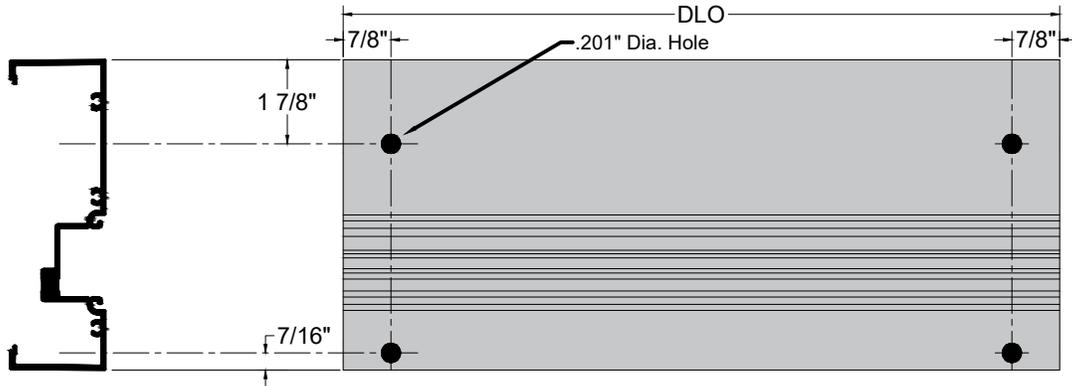
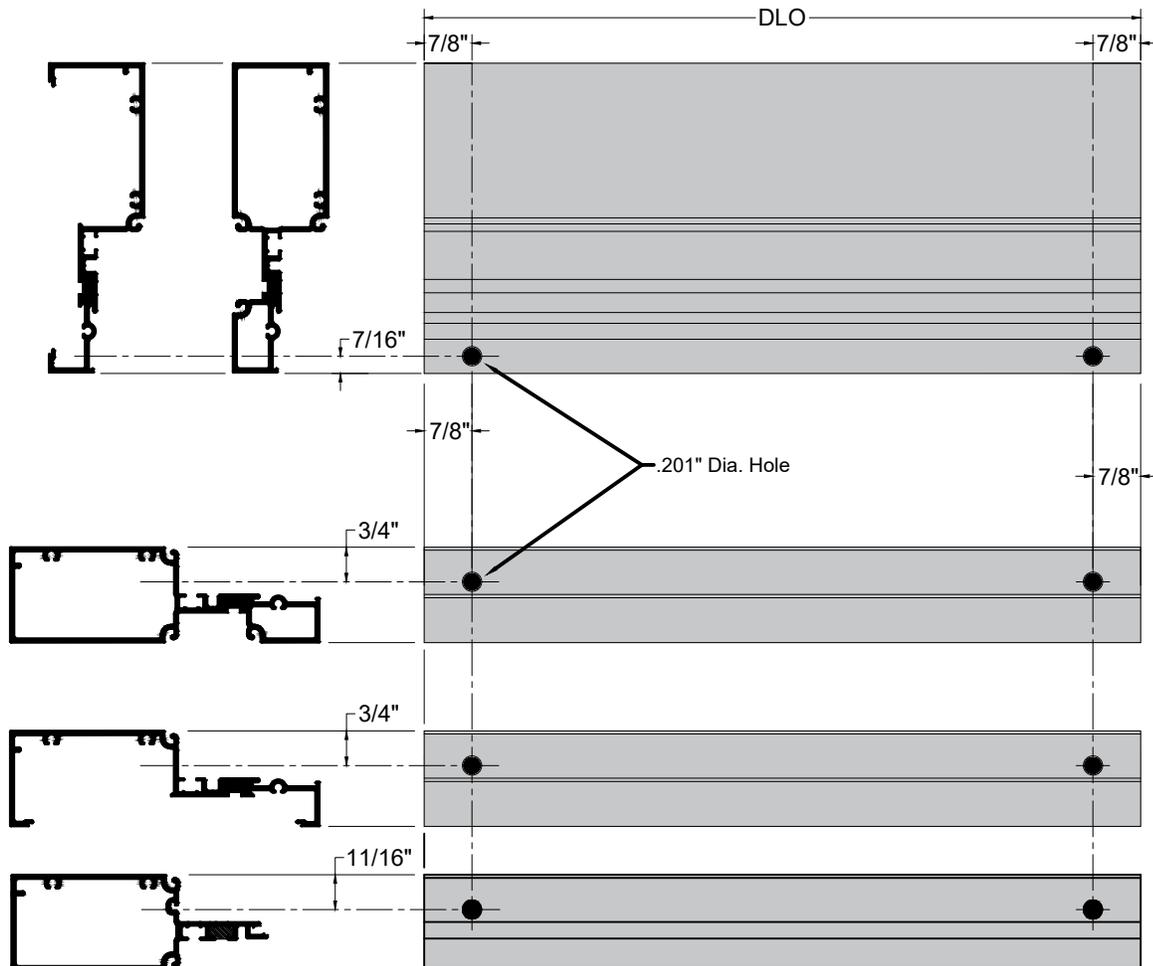

Fig.27.1
Fig.27.2
- A. For shear block assembly, drill .201 dia holes in the head, horizontal and sill members. Countersink these holes for the head members only. SEE Fig. 27.1 & Fig. 27.2